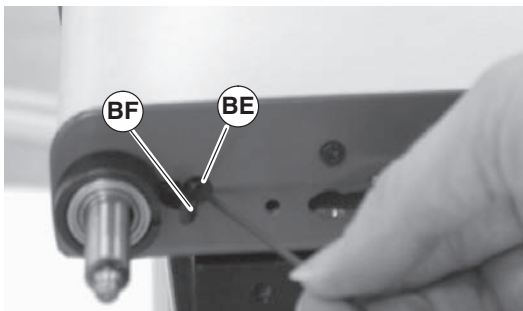

Figure 31
- Insert retaining sleeve clip (Figure 31, item BF) into slot (AY). Tighten with screw (BE).